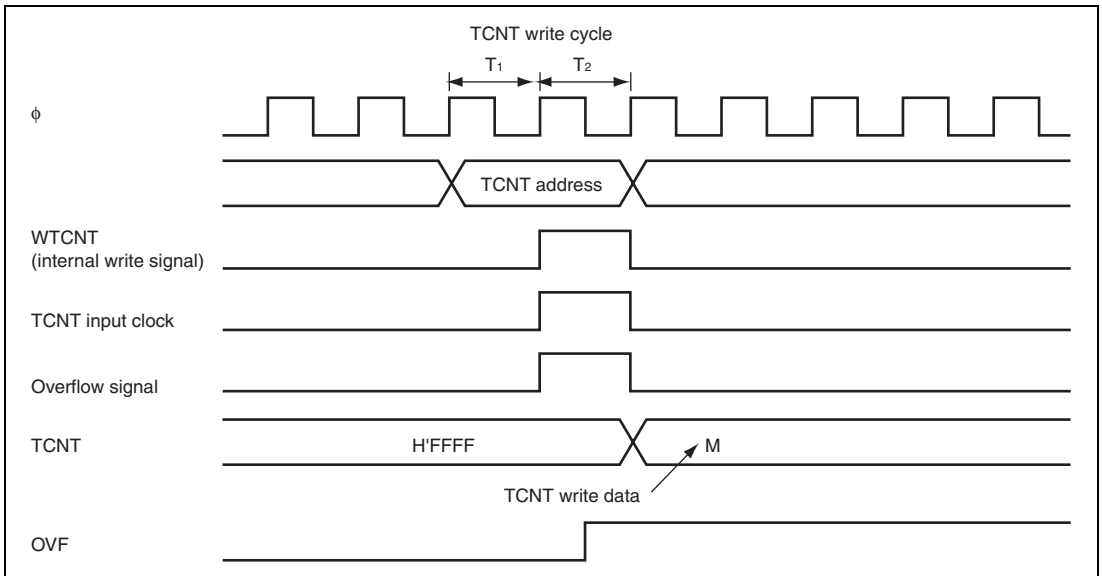

Figure 12.55 Contention between TCNT Write and Overflow
4. Contention between TCNT Write and Overflow/Underflow: If overflow/underflow occurs in the T_2 state of a TCNT write cycle, TCNT write has priority without an increment operation. At this time, the OVF flag is set to 1. Figure 12.55 shows the timing in this case.